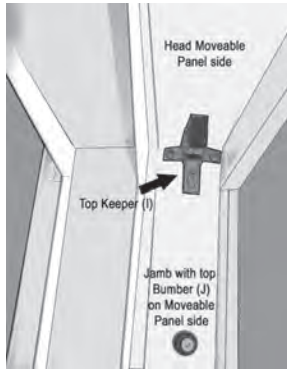

Fig. 11
- 5) Install lock keepers. Keeper with the long ramp is the top keeper (I). (Fig. 11) The one with shorter ramp is the bottom keeper (H). Note that on the inside of the jamb channel there is a score line, precisely on center of the channel. This mark is used to center keepers. (Fig. 12)